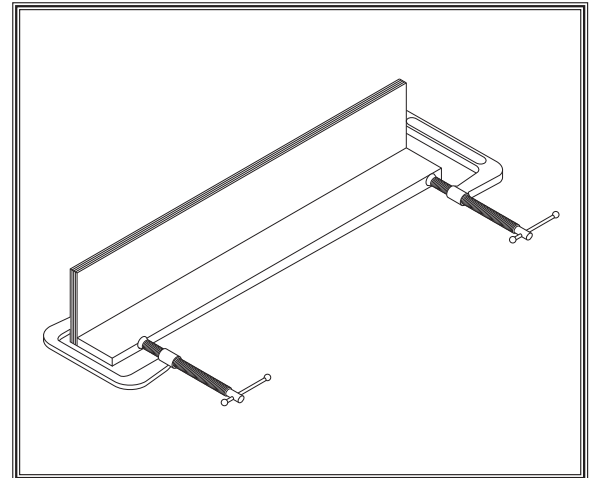

Figure 53. Clamping the resawing barrier.
3. Glue the end of the 3" board, then clamp the boards at a 90° angle with the larger board in the vertical position as shown in Figure 53.